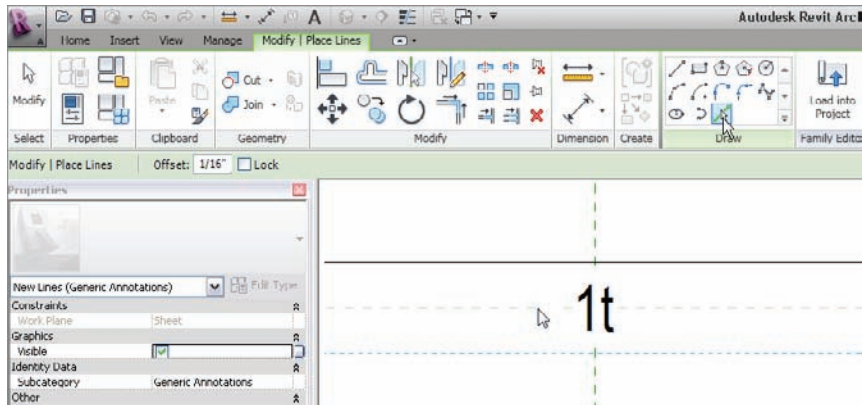

FIGURE 11.83 Offsetting the horizontal reference plane up and down
4. Zoom into the label, and then offset the horizontal reference plane up 1/16" (1.5mm) and down 1/16" (1.5mm), as shown in Figure 11.83.